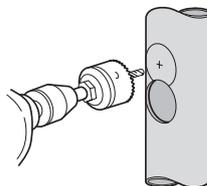

Fig. 17b Step 2
Step 2 – Drill two overlapping holes of correct size (see table this page) at 45mm centres (Fig. 17b) for 135.4 and 135.6 and 30mm centres for 135.3